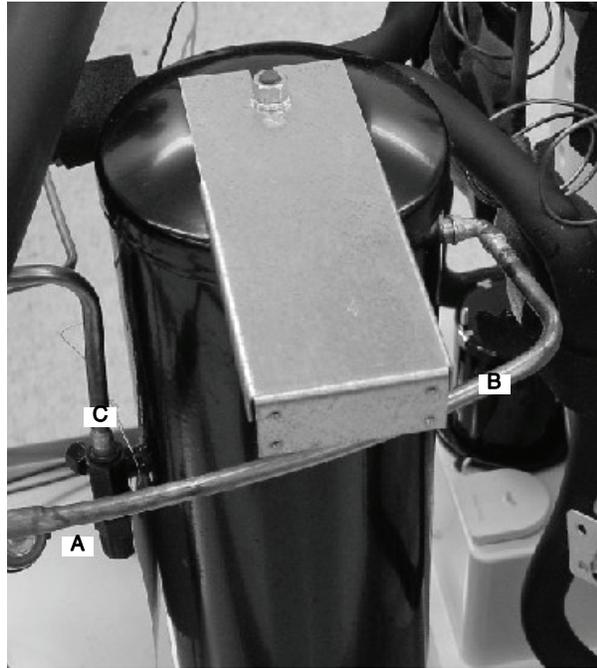

Figure 32.
Braze the Liquid Line with Filter Drier to the receiver outlet (C) (FIGURE 32).